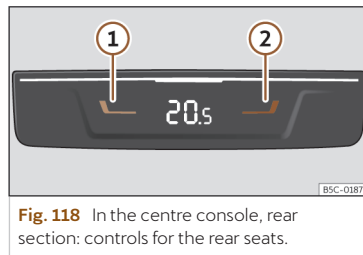

Fig. 118 In the centre console, rear section: controls for the rear seats.
- Press buttons **1** and **2** >>> **Fig. 118** to adjust the temperature of the rear zone.